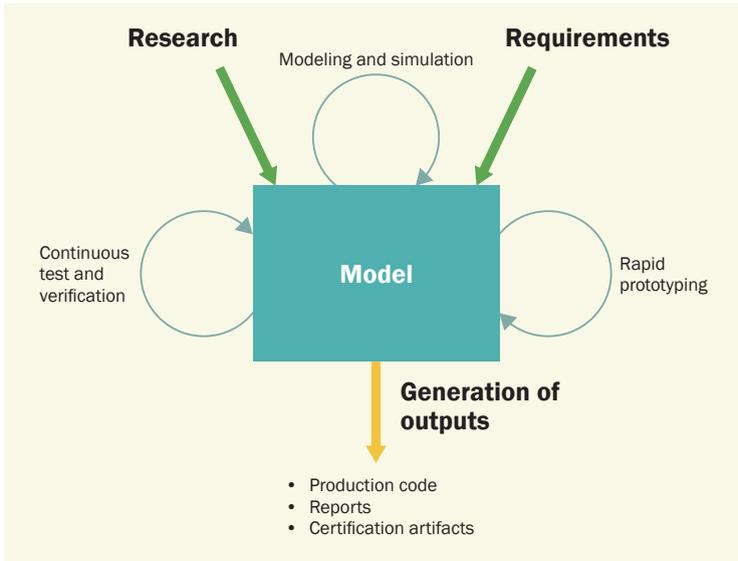

Figure 1.1. Workflow for Model-Based Design.
Model-Based Design is a model-centric approach to the development of control, signal processing, communications, and other dynamic systems. Rather than relying on physical prototypes and textual specifications, Model-Based Design uses a model throughout development. The model includes every component relevant to system behavior—algorithms, control logic, physical components, and intellectual property (IP). Once the model is developed (elaborated), it becomes the source of many outputs, including reports, C code, and HDL code. Model-Based Design enables system-level and component-level design and simulation, automatic code generation, and continuous test and verification (Figure 1.1).